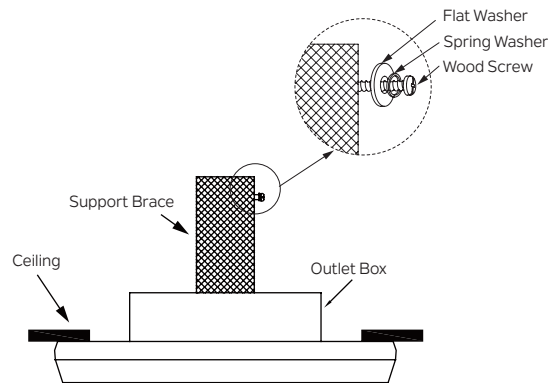

Fig. 11
Step 1. Slip the spring washer, then the flat washer onto the wood screw, then drive the wood screw into the side of the brace that holds the outlet box. Leave 3mm (1/8") of space between the support brace and the flat washer. **(Fig. 11)**